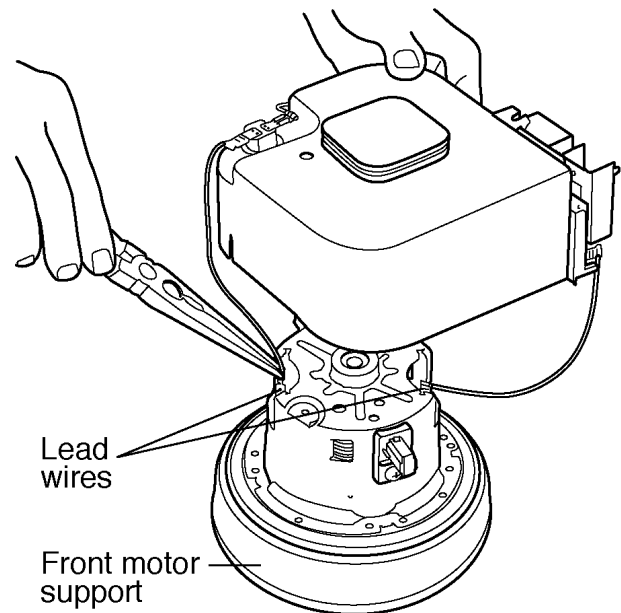

Fig.6
6. Disconnect the lead wires (provided with quick-connect terminals) from the carbon brush holder tabs and remove front motor support. (Fig. 6)